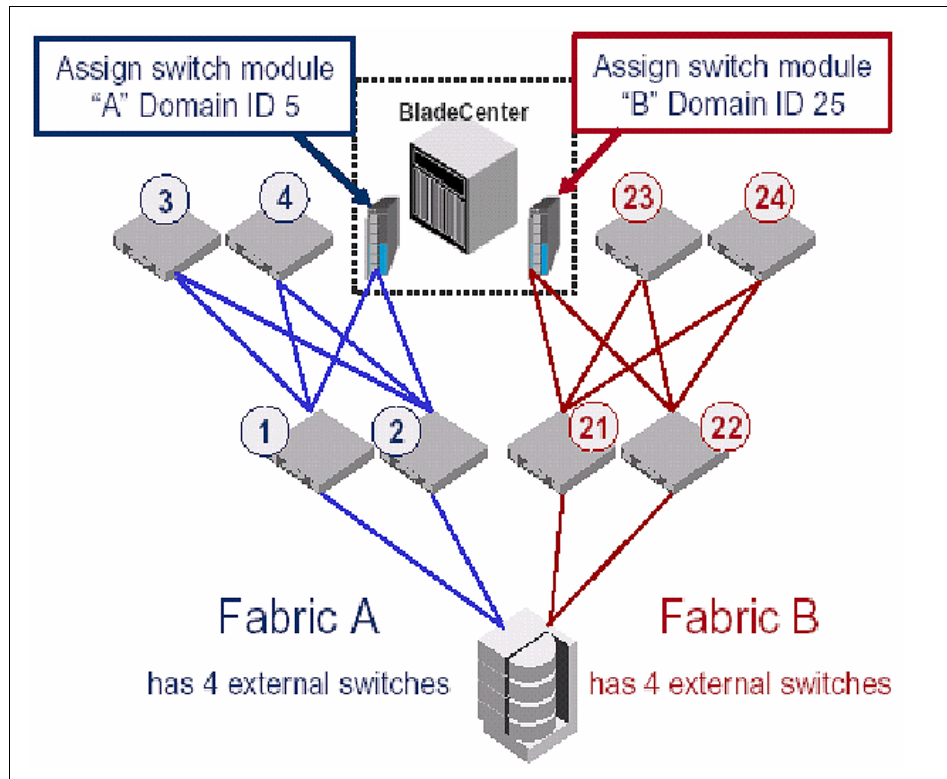

Figure 5-9 Selecting Domain ID numbers
- See Figure 5-9 as an example of both external switches and embedded switch modules.